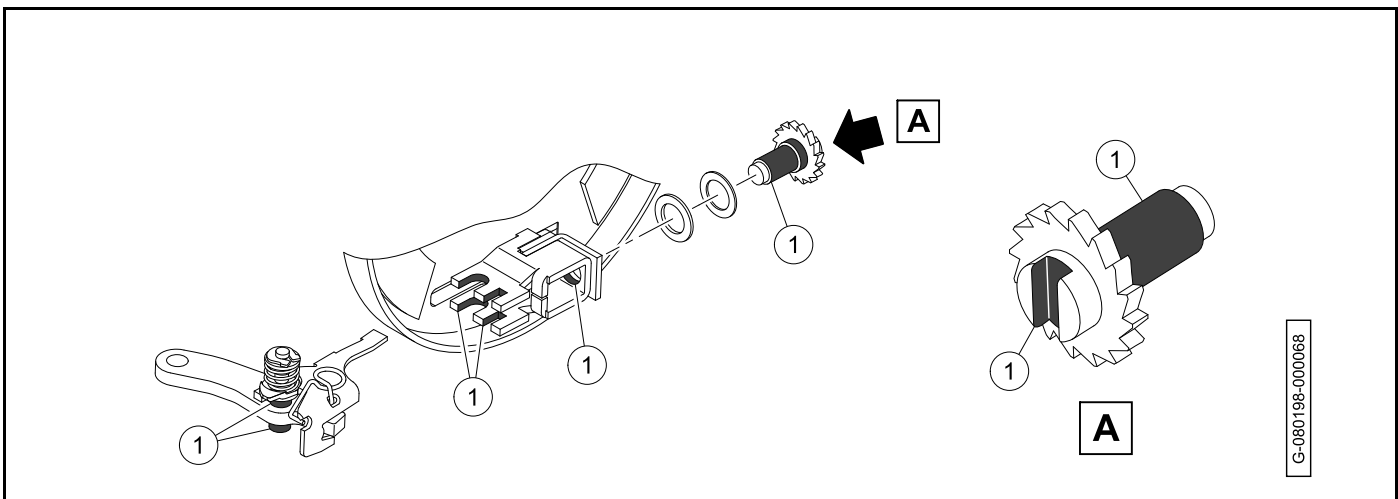

Figure 6-10
8. Use a small brush to carefully apply a light coat of white lithium NLGI #2 grease (Dow Corning® BR2-Plus or equivalent) to the brake adjuster assembly, adjuster wheel shoe slots, and the shaft of the adjuster wheel as shown (Figure 6-10).